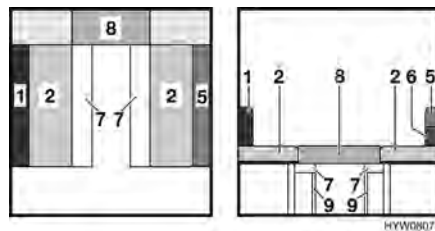

Fig. 39 During conversion
- Insert the additional cushion (Fig. 39,8).
- Pull the slatted frames (Fig. 39,7) out a bit.
- Fold out the four supports (Fig. 39,9).
- Remove the back cushion (Fig. 39,1) and lay it aside.
- On the second back cushion separate the upper section (Fig. 39,5) from the lower section (Fig. 39,6).